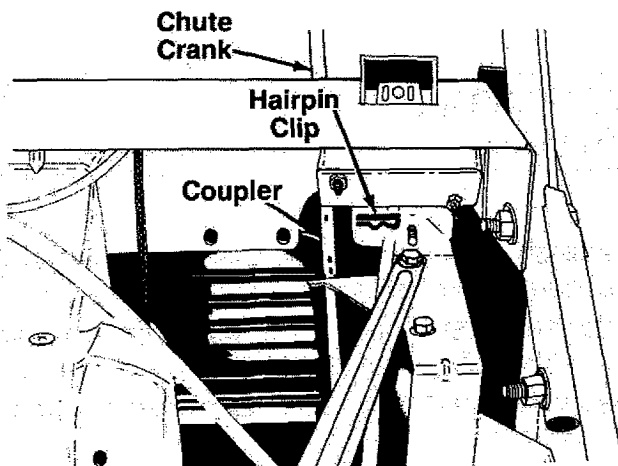

FIGURE 3.
- Remove the hairpin clip from the coupler located inside the snow thrower. See figure 3.